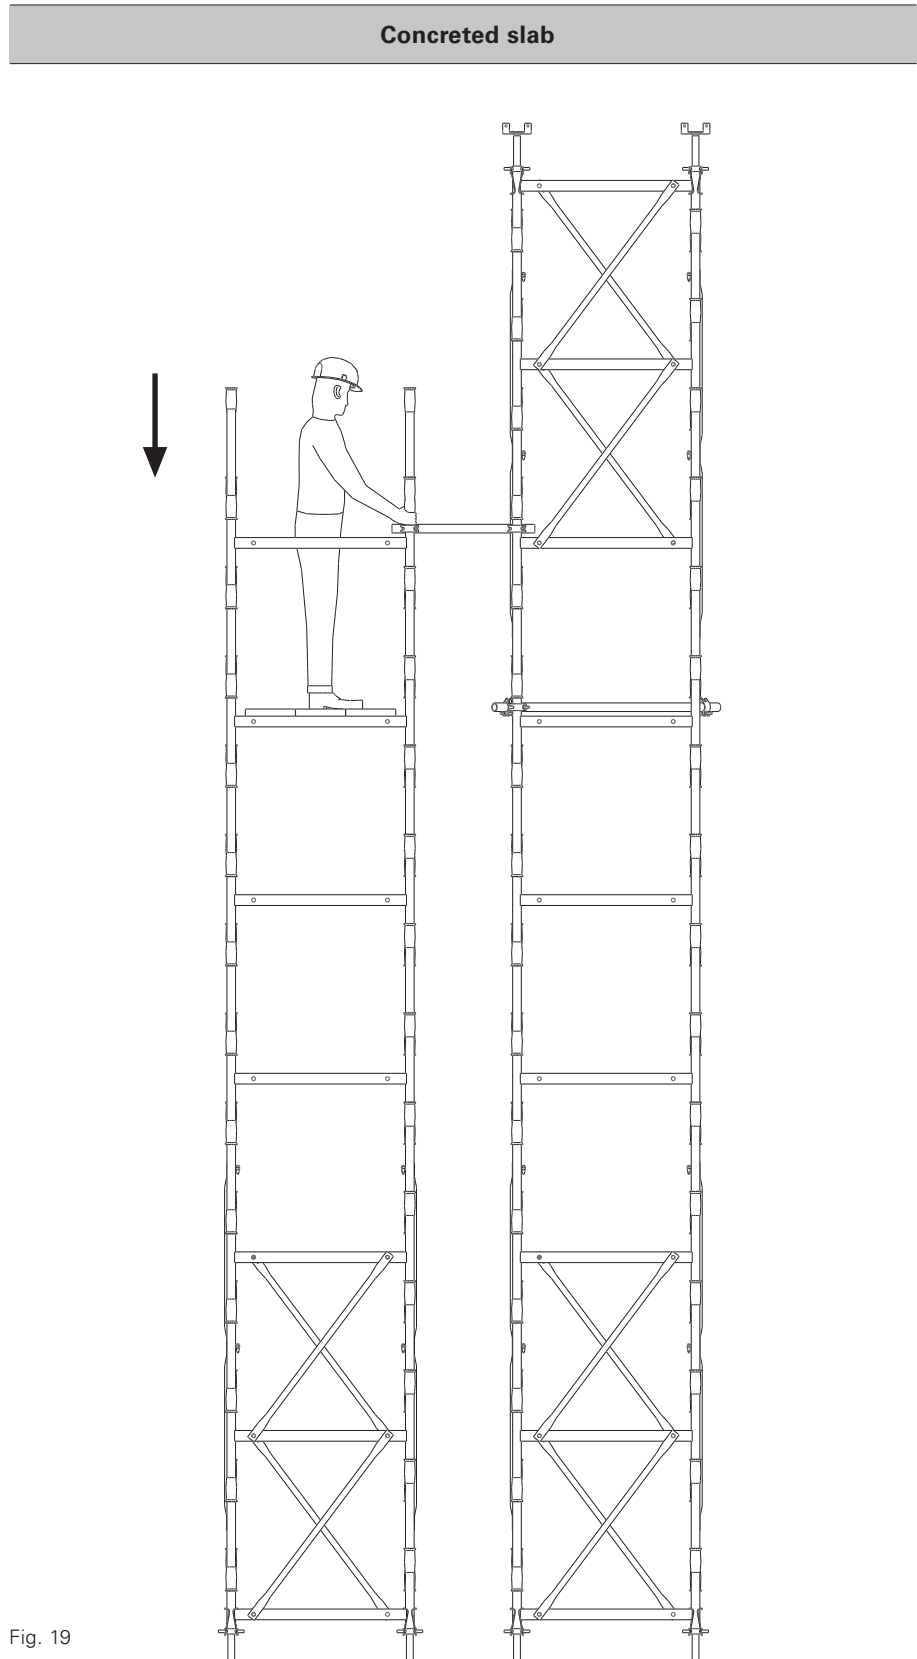

Fig. 19
3. Dismantle tower from top to bottom. Remove diagonal bracing only if the stability is guaranteed. (Fig. 19)